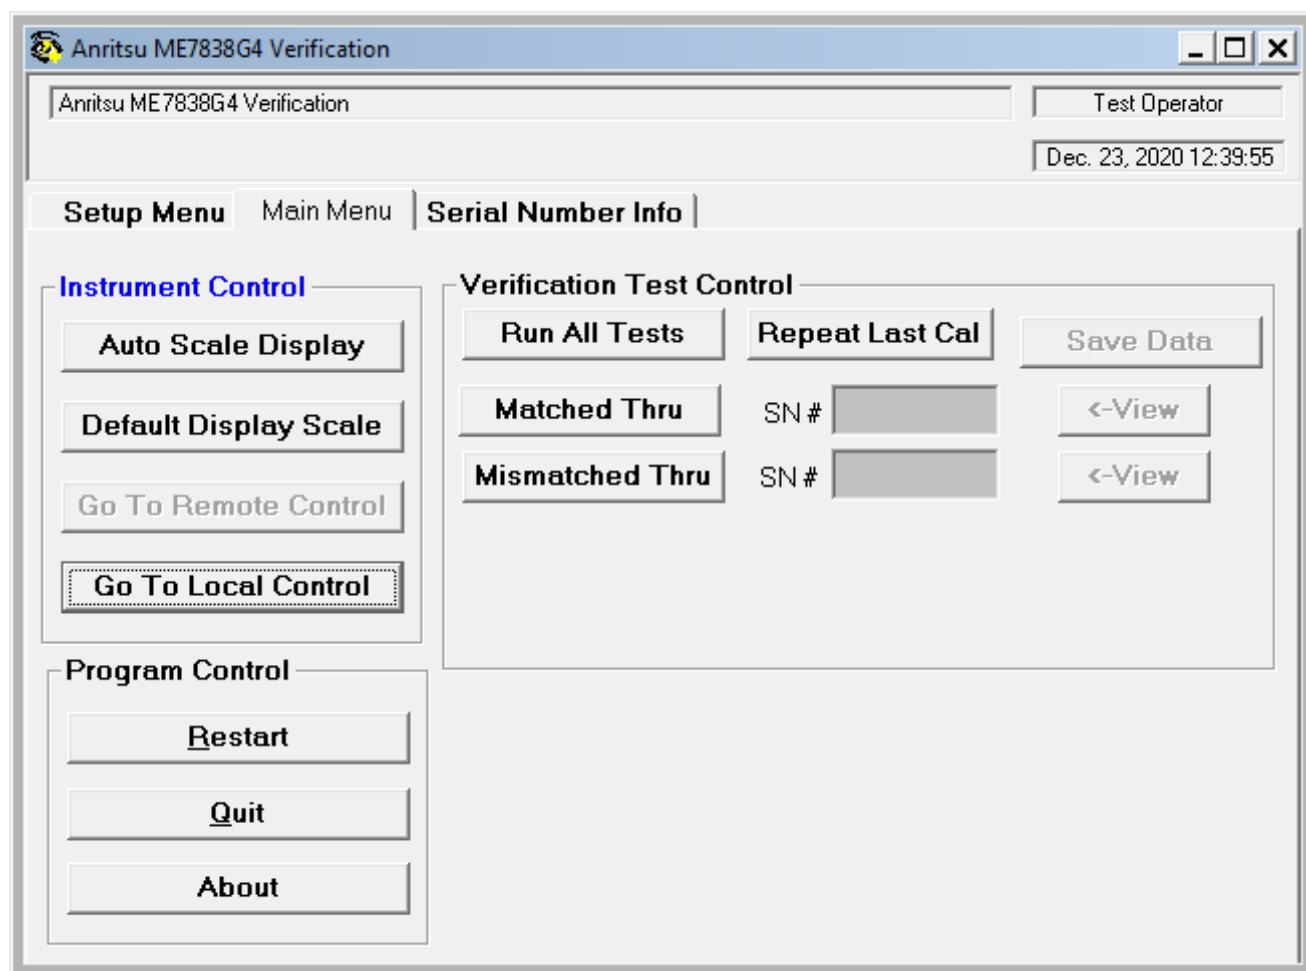

Figure 5-70. ME7838G4 Application Interface – Main Menu Tab
- The Main Menu tab display is described in Section 5-9, “Application Interface – Main Menu Tab” on page 5-28 and is shown in Figure 5-70.
This command button runs both the Matched Thru and Mismatched Thru tests. Program execution starts with Section 5-20 “Matched Thru Tests – Port 3/Port 4” on page 5-54 and then continues with Section 5-21 “Mismatched Thru Tests – Port 3/Port 4” on page 5-58. When both tests are completed, program execution returns to the Main Menu tab shown in Figure 5-70 on page 5-50.
This command button re-calibrates the VNA according to the CURRENT calibration. This provides a way to recalibrate the VNA without having to reset the program parameters in case the original calibration was flawed for some reason. When the calibration sequence is complete, program execution continues to the Main Menu tab shown in Figure 5-70 on page 5-50.
9. If only the Matched Thru button was selected, the program returns to the “Application Interface – Main Menu Tab” on page 5-50. The dialog box is shown in Figure 5-70.